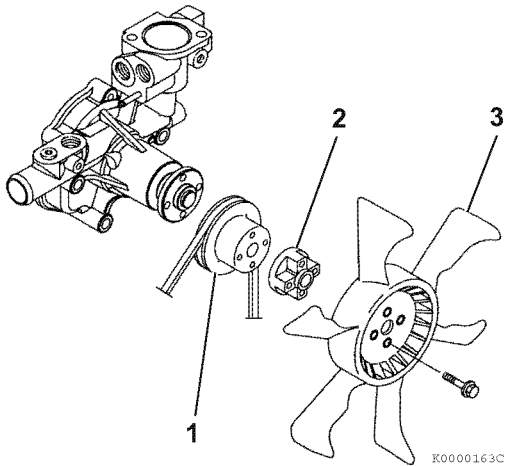

Figure 9-13
7. Reinstall the engine coolant pump V-pulley (1, **Figure 9-13**), spacer (2, **Figure 9-13**), engine cooling fan (3, **Figure 9-13**) and engine cooling fan guard (if equipped).